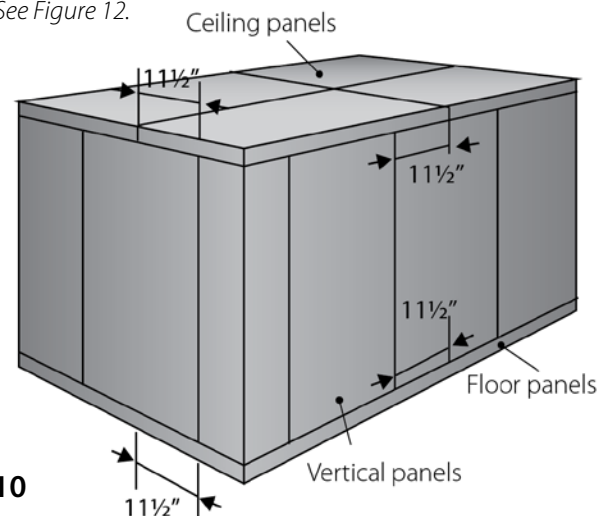

Figure 10
- E. To check for correct alignment measure the distance from the edge of the ceiling or floor to the nearest vertical joint. This should be 11 1/2 inches and maintained at every joint of the Walk-In. Use a staggered locking sequence as shown in Figure 6. See Figure 10.
- C. In large multi-compartment Walk-Ins, (three compartments or more) it is very important to control the alignment of the panels and make sure if there is any growth in the vertical panels that they are growing at the same rate as the ceiling and floors. A quick and accurate way to check for correct alignment is to measure the distance from the edge of the ceiling to the nearest vertical panel joint. This measurement must be 11½"; it must be maintained at every joint to assure proper assembly of the Walk-In. See Figure 10. In these instances we recommend that after the floors are placed and leveled that the center most partition be the starting point and to work toward either end of the box.